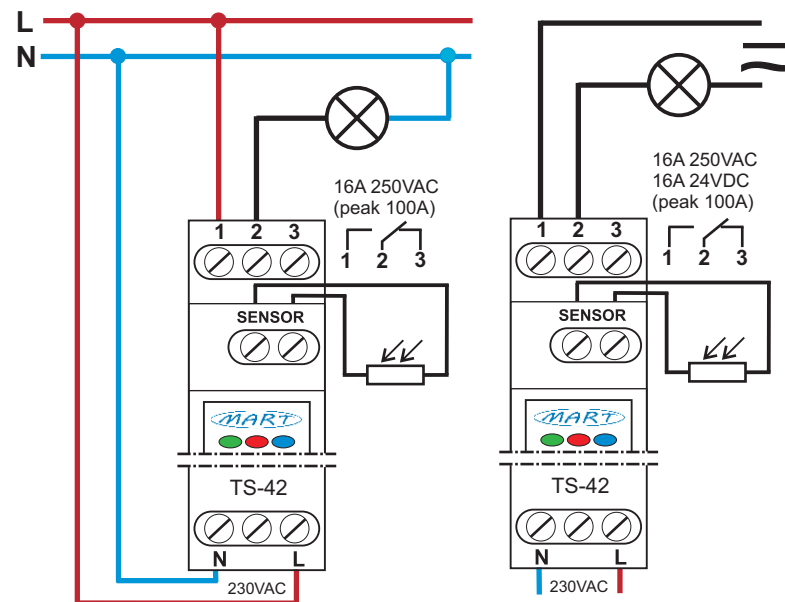

Fig. 2. : Connection diagrams for the TS-42-2 TWILIGHT SWITCH automatic device.
3. connect the wires in accordance with the diagram (fig. 2)